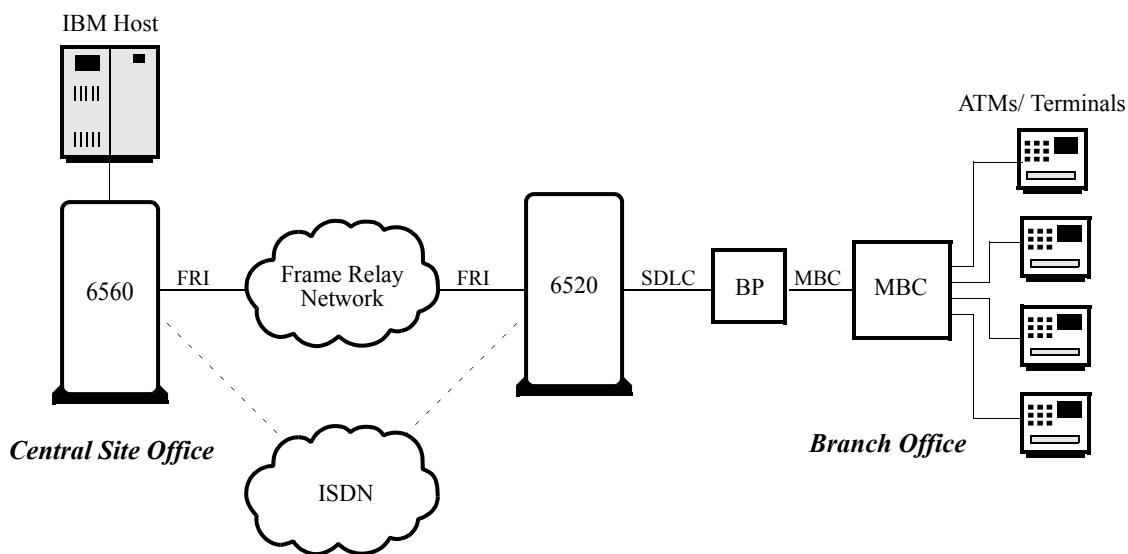

Figure 2. With MBC Support on 6560
To understand how MBC Protocol support can be used, consider the examples shown in Figures 2 and 3 where Vanguard 6560s connect an IBM host to the Frame Relay network.
In Figure 2 the branch office uses a Vanguard 6520 to connect its polling controller equipment (BP) to the Frame Relay network. The 6520 runs the SDLC protocol on the line to the BP. The BP in turn connects to a line controller called the MBC which is connected to multiple devices (ATM machines, cash dispensers, and terminals). The MBC protocol runs between the BP and the devices.